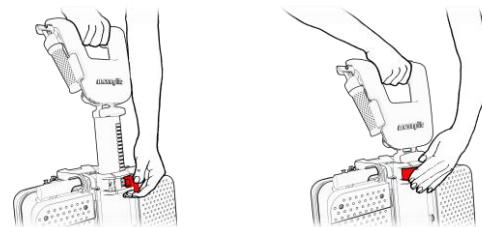

Figure 44
- Pull the rod height lever (see Figure 44, step 1) to adjust the height of the handlebar to the lowest position and bring the lever back to the secure position (see Figure 44, step 2).